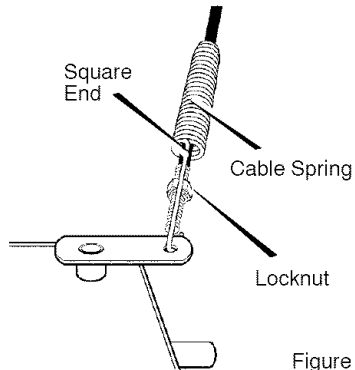

Figure 38
3. Push cable through spring to expose the threaded portion of the cable (see Figure 38).